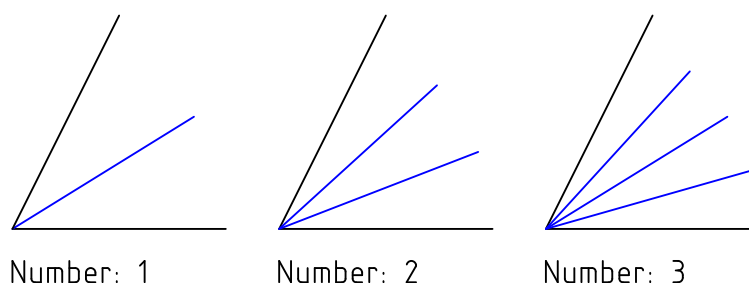

Figure 30: Construction of Bisectors.
1. In the options toolbar enter the length of the bisector(s), starting from the intersection point of the two lines. In the second text box, type the number of angle bisectors you want to create. The default is '1' but you can also create multiple bisectors as shown in Figure 30. To specify the length in the command line, enter length, len or l, followed by the length. To specify the number of bisectors in the command line, enter number, num or n, followed by the number.